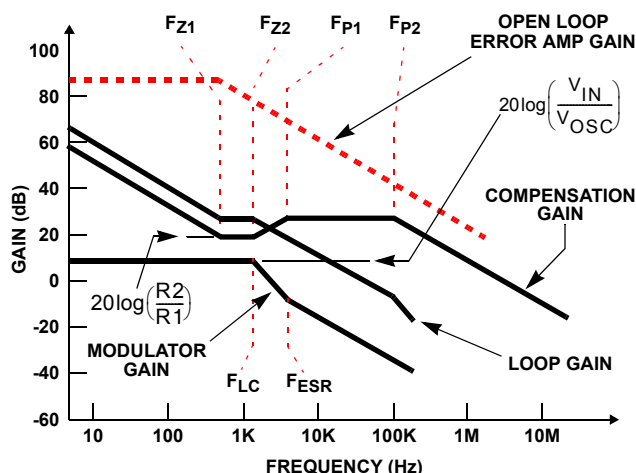

FIGURE 6. ASYMPTOTIC BODE PLOT OF CONVERTER GAIN
Figure 6 shows an asymptotic plot of the DC/DC converter's gain vs. frequency. The actual modulator gain has a high gain peak dependent on the quality factor (Q) of the output filter, which is not shown in Figure 6. Using the above procedure should yield a compensation gain similar to the curve plotted. The open loop error amplifier gain bounds the compensation gain. Check the compensation gain at F_{P2} with the capabilities of the error amplifier.